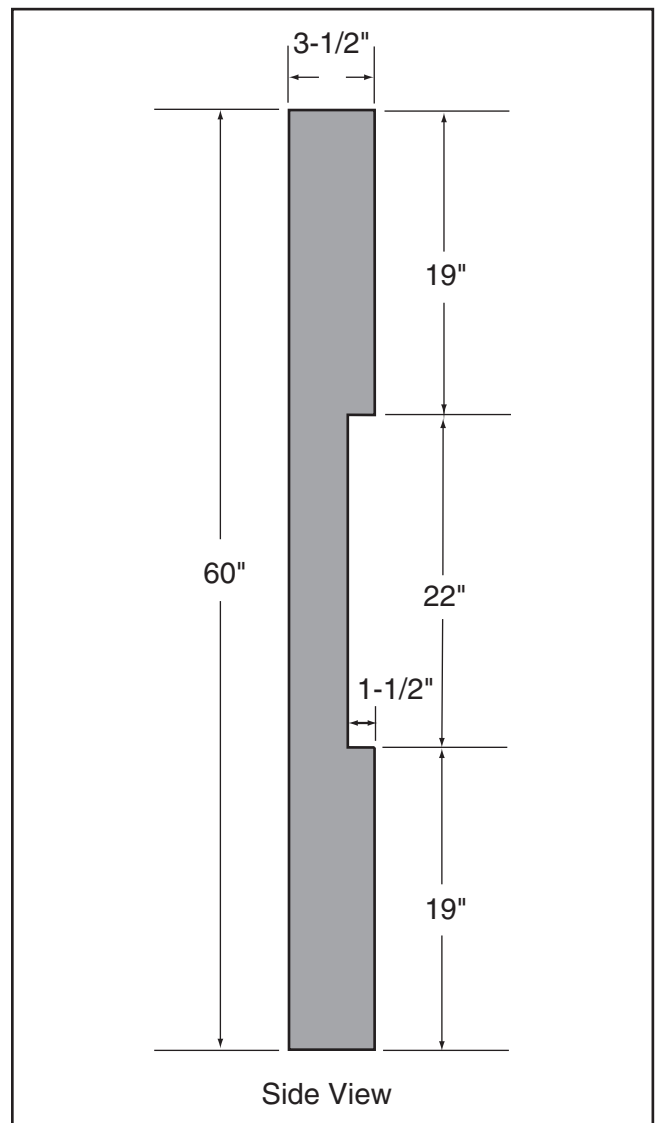

Figure 107. Dimensions of coplanarity gauge.
Coplanarity Gauge (see **Figure 107**) 1
1. Make the "Coplanarity Gauge" shown in **Figure 107**.